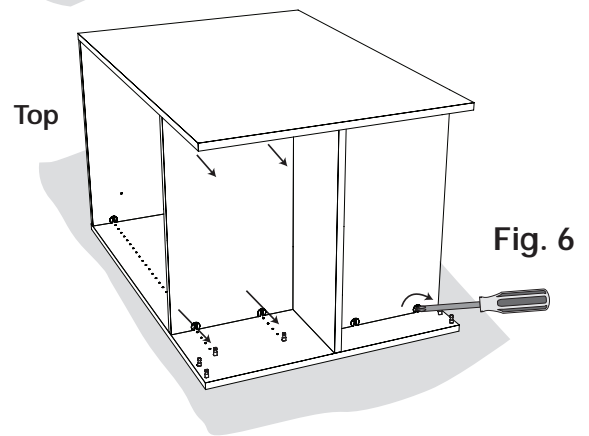

Fig. 6
5. Lay unit on one side panel. Slide bottom panels in (against divider) and over bottom screw-in studs. Tighten cams. (See Fig. 6.)